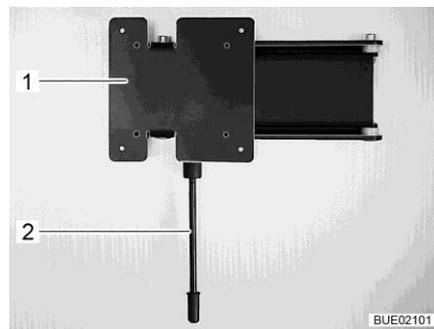

Fig. 52 Wall holder
- Pull down the release lever (Fig. 52,1) and turn the holder (Fig. 52,2) with the flat screen to the desired position.